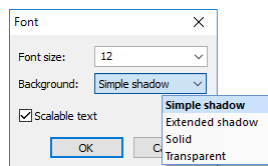

Figure 199 – Font dialog
**Font size**, **Background** and **Scalable text** options can be set for measurement's texts in the **Font** dialog (see Figure 199) that is displayed by clicking the **Font** item in the context menu of any measurement .